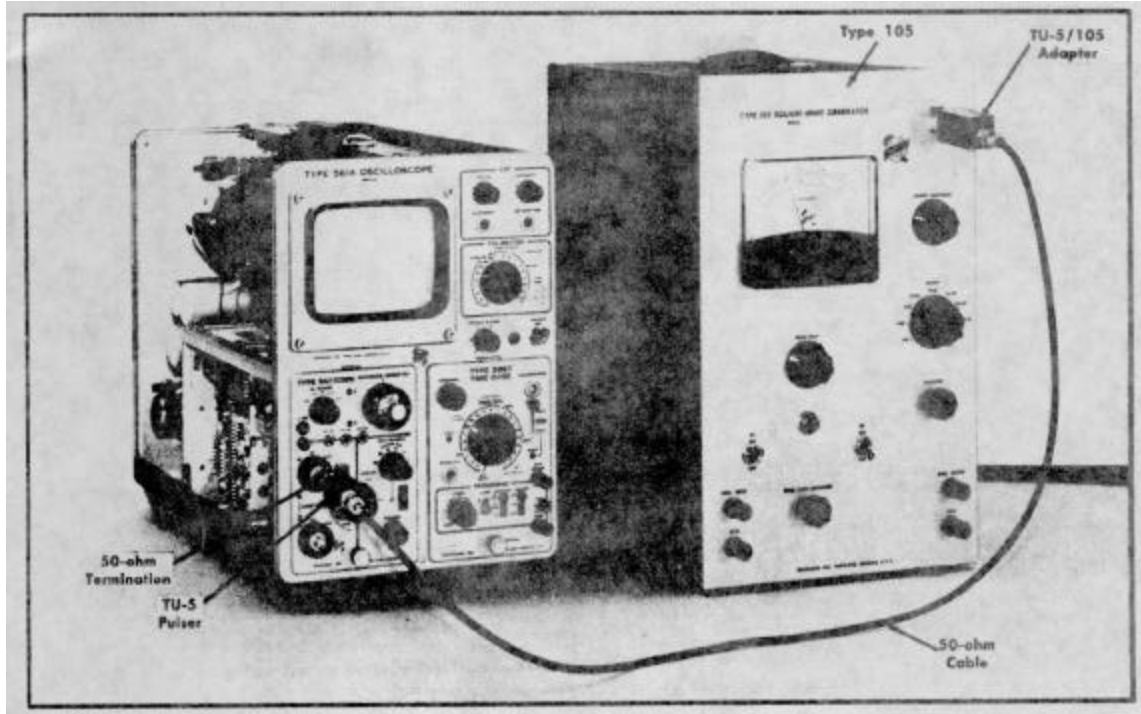

Fig. 5-43. Setup at completion of step 35c.
c. Starting at the Type 105 Output connector connect the following items in this order: TU-5/105 Adapter, 50-ohm coaxial cable, TU-5 Pulser and 50-ohm termination to the Type 3A7 input A connector. Fig. 5-43 shows the set-up for this step.